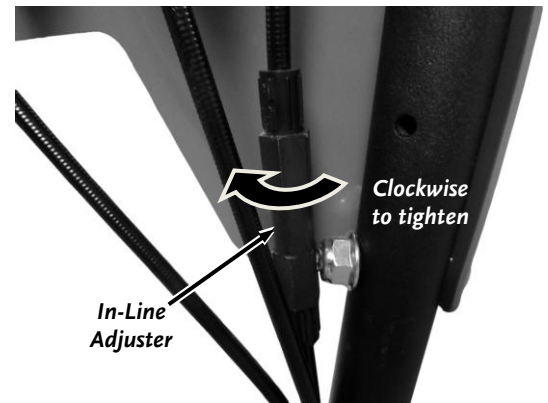

Figure 29
1. Locate the In-Line Adjuster on the Traction Drive Cable on the right Handlebar (behind the Operator Panel) (**Figure 29**).